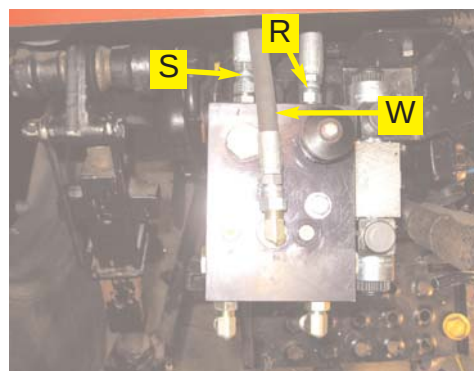

Figure 5a. Installed pressure tank and load sense lines at the automated steering block.
- a. Connect the pressure hoses (**R**) from the **P** port on the automated steering block to the run tee fitting (**G**) installed in step 3. (Figure 5a. and 5b.)
- b. Connect the tank hose (**S**) from the **T** port on the automated steering block to the run tee fitting (**H**) installed in step 3. (Figure 5a. and 5c.)
- c. Connect the load sense hose (**W**) from the **LS** port on the automated steering block to the pilot port (fitting **L**) on the dynamic load sense valve. (Figure 5a. and 5b.)